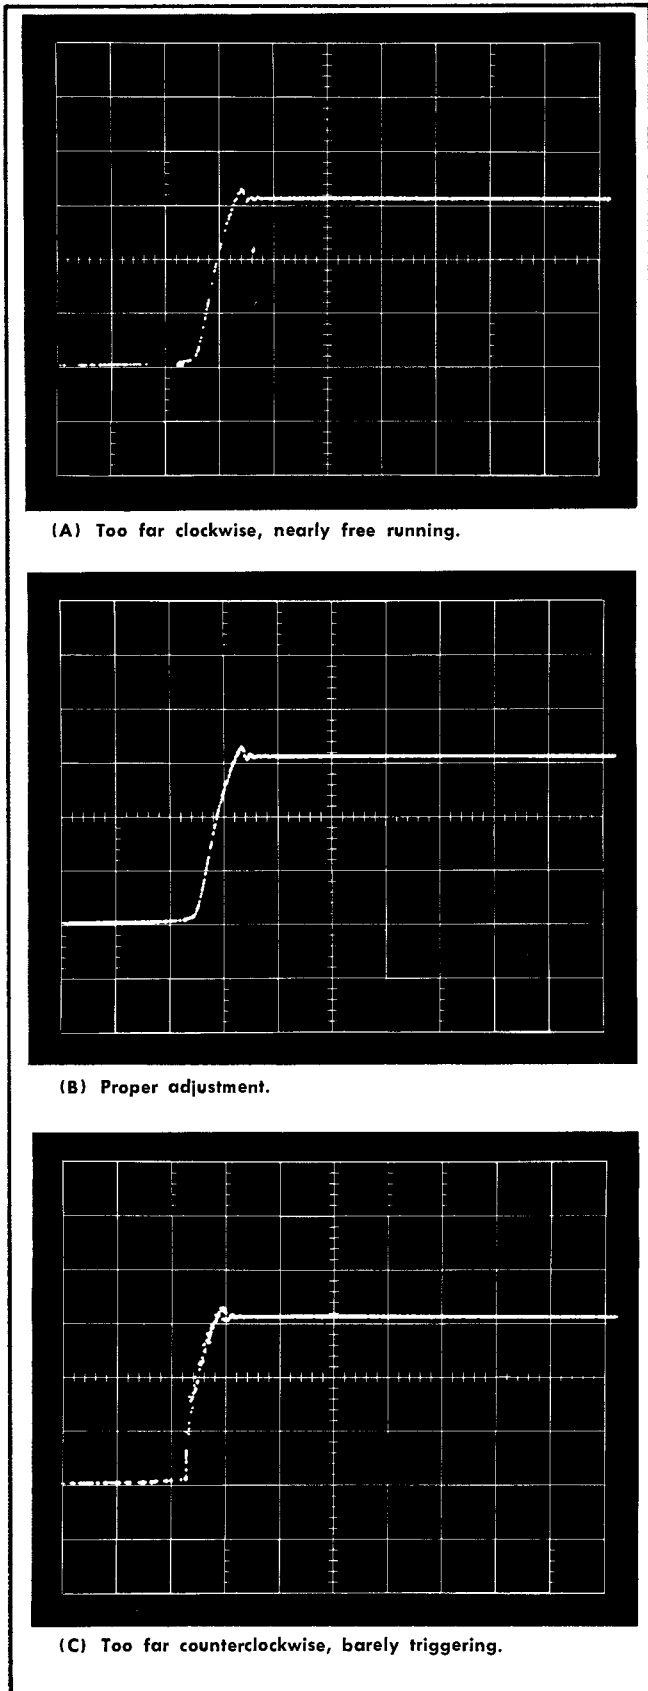

Fig. 3-3. Three examples of TRIG SENSITIVITY control adjustment. RANGE 100 ns, START POINT, BEFORE TRIGGER.
**START POINT Switch** Provides the operator with a choice of random or sequential sampling process. At WITH TRIGGER, the time window can be positioned to start with, but not before, trigger recognition. At BEFORE TRIGGER, the time window can be positioned to start as much as one half the RANGE before trigger recognition (see Fig. 3-3).
e. While turning the MANUAL SCAN back and forth from fully counterclockwise to fully clockwise, adjust the HORIZ POSITION control so the trace is exactly centered horizontally on the graticule (see Fig. 3-3).